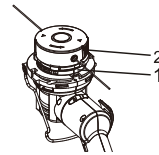
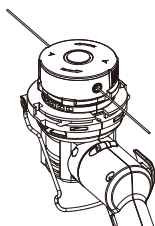

Fig. 12
Fig. 16
1. Press the spool locking buttons (1) into the spool housing (2) (Fig. 12).
8. When the new trimmer line spool is installed, approximately 3" (7.6 cm) of trimmer line should be exposed beyond the spool housing. If they are too long, cut lines to length with scissors. If they are too short, press the line release button (1) on the trimmer line housing and gently pull on the exposed trimmer lines (Fig. 16).
If the cutting circle is getting too small, the trimmer line may be either jammed on the spool or has run out. Manually advance the line as outlined in Fig. 16. If that fails, see "CORRECTING A JAMMED OR SHORT TRIMMER LINE" below.
When finished trimming, clean the underside of the guard and the spool. Advance the line as outlined in Fig. 16 to ensure the line is the correct length for the next trimming.
Press the line release button (1) on the trimmer line housing and gently pull on the exposed trimmer line until 3" (7.6 cm) of line is exposed beyond the spool housing (Fig. 16).
Remove the spool from the spool housing, unwind approximately 3" (7.6 cm) of line and reinstall the spool (Fig. 12 through Fig. 16).
Remove the spool from the spool housing, unwind all the trimmer line from the spool and rewind the trimmer line onto the spool (Fig. 12 through Fig. 16).